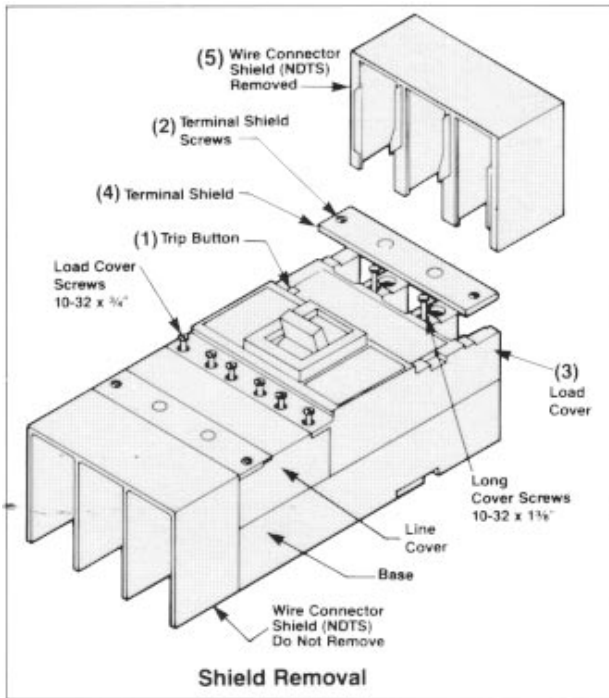

Figure 1
- B. Make sure device is in tripped position. For circuit breakers, depress the red TRIPPED button (1) (Figure 1). On molded case switches, removing the cover will trip the mechanism.
- C. Remove two terminal shield screws (2) on load end cover (3) (Figure 1) and remove terminal shield (4) and wire connector shield (5) (if used). Remove load end cover. Accessory units can be mounted in either right or left pole of the circuit breaker.